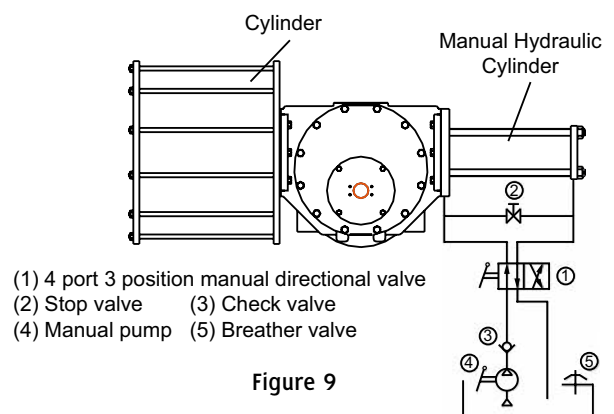

Figure 9
The hydraulic manual over-ride is optionally available for models G30XXX, G35XXX, G40XXX, G48XXX and G60XXX double acting pneumatic & hydraulic actuators (refer Figure 9 & 9A) the manual operating device is a hydraulic over-ride with a hand pump. When manual operating is required, firstly open the equalising valve (2) mounted on the pneumatic actuator, close ball valve (2) by operating the hand pilot valve to control the hydraulic cylinder's oil supply/exhaust, and operate the hand pump to energise opening or closing the valve manually. To return to automatic operation, set the handle of the 4 port 3 position manual direction valve (1) to the middle position and open ball valve (2), Manual over-ride is then disengaged.
(Also refer Figure 9)